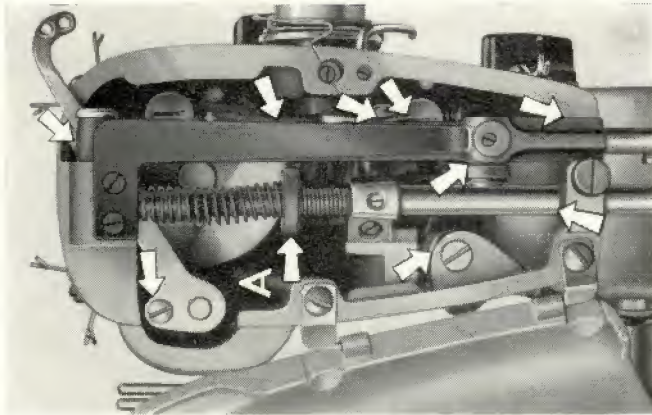

Fig. 64.
Other places where the machine needs oiling occasionally are shown by arrows in Figs. 64 and 65. To get at them you pull open the cover plates at the left end of the upper arm and at the back of the machine (with the spool pins fixed to it).
2. Feed dog may be lowered. Drop feed knob (25) should be turned so that the stitch symbol is in front.
3. Insufficient pressure on the pressure foot. Increase the pressure by turning the regulating screw (A, Fig. 64) to the right.
6. Insufficient pressure on the presser foot, especially when sewing thick fabrics. Turn the pressure regulating screw (A, Fig. 64) to the right.
1. Too much pressure on the presser foot. Reduce by turning the pressure regulating screw (A, Fig. 64).	35—37, 39